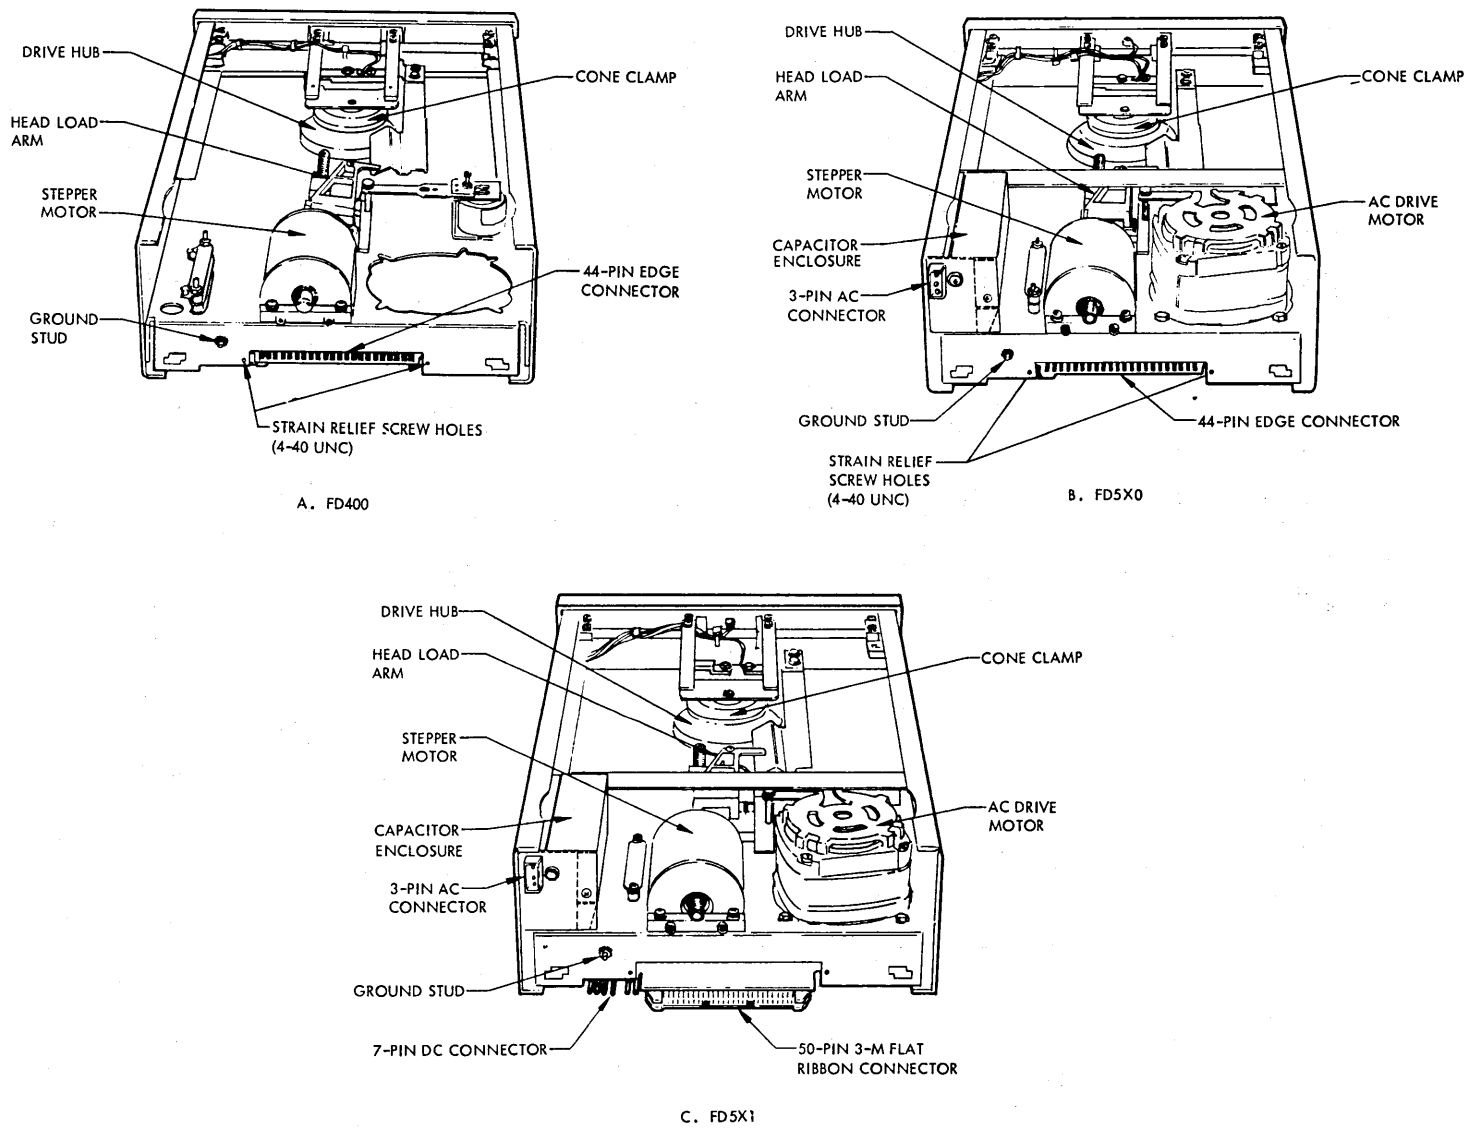

Figure 1-4. Physical Orientation
Both signal and dc power connection is made to the FD400 and FD5X0 via a user-supplied 44-pin edge connector. This connector mates directly with the FD400 and FD5X0 PCBA at the rear of the drive as shown in Figure 1-4 (A and B) and must be keyed between pins 5 and 6. Two tapped (4-40 UNC) holes are provided to accommodate strain-relief screws.
In addition to the 44-pin edge connector, FD5X0 drives require that ac power connection be made via a three-pin socket located at the rear of the drive. Refer to Figure 1-4(B).
Signal connections for the FD5X1 are made via a user-supplied 50-pin flat ribbon connector (3M Part No. 3425-3000, or equivalent). This connector mates directly with the PCBA connector at the rear of the drive as shown in Figure 1-4. Power connections are divided for ac and dc requirements. The dc connector is a seven pin connector which mates with PCBA mounted connector at the rear of the drive (see Figure 1-4). The FD5X1 Series is similar to the FD5X0 Series in that ac power connection is made via a three pin socket at the rear of the drive. Refer to Figure 1-4 (C).
To ensure proper operation of the drive, the chassis should be connected to earth ground. A stud, shown in Figure 1-4, is provided at the rear of the chassis to facilitate this connection.